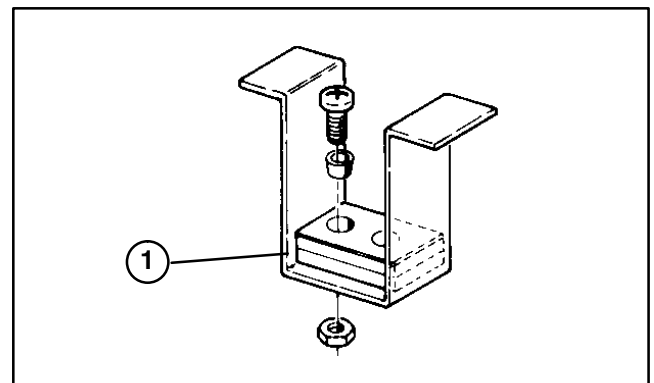

Figure 15
10. Check to make sure front height-of-cut pins are resting properly on frame cushions (Fig. 15). If pins are not resting properly, place a shim or shims under cushion to raise it for proper alignment.